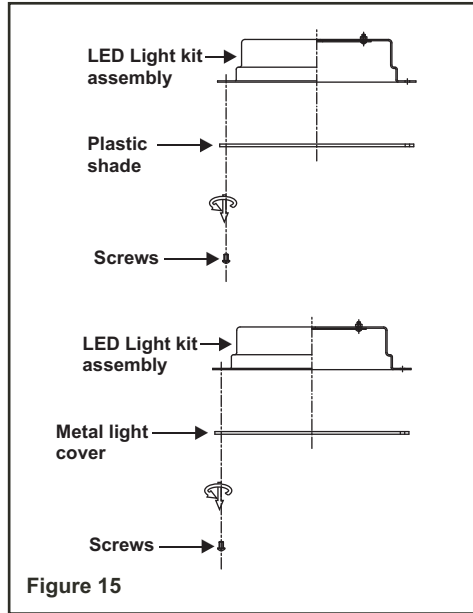

Figure 15
1. Disassemble the plastic shade from the LED light kit. You can keep the plastic shade for future use. (Fig. 15)
2. Installing metal light cover to the LED light kit with the two screws previously removed. (Fig. 15)